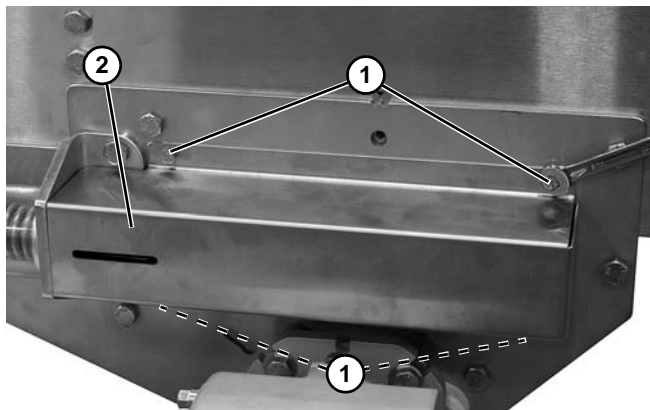

Figure 49
6. Remove four screws (**Figure 49, item 1**) and cover (**Figure 49, item 2**).